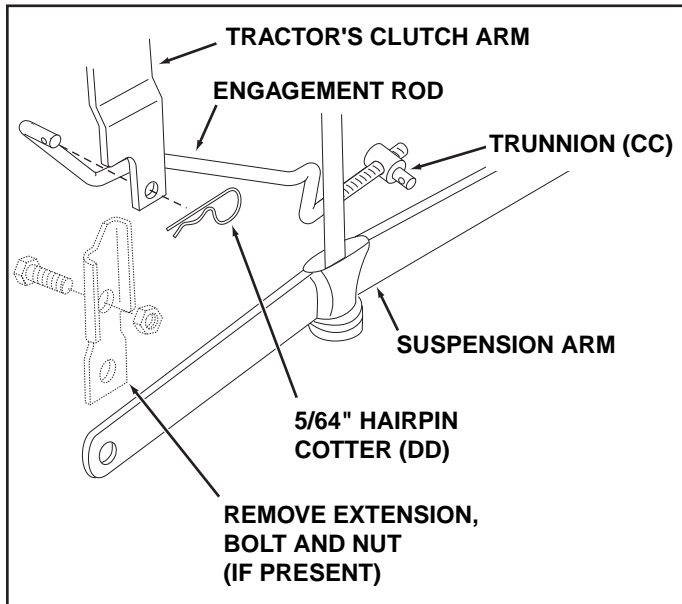

FIGURE 29
STEP 29: (SEE FIGURE 29)
- Screw the trunnion (CC) onto the end of the snow thrower engagement rod.